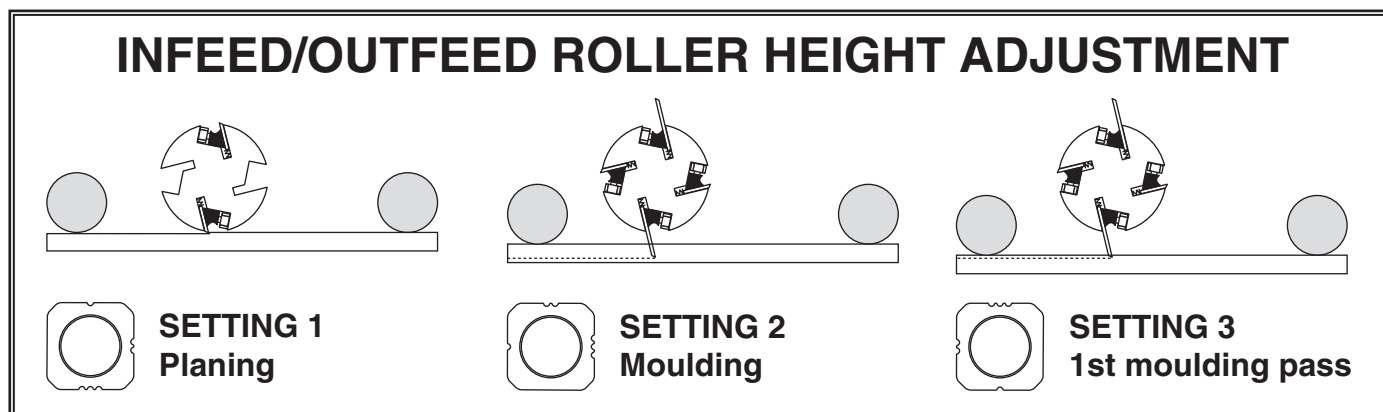

Figure 17. Roller height adjuster settings.
- Use the special wrench provided to turn the roller height adjuster to one of the three pre-set settings shown in **Figure 17**.